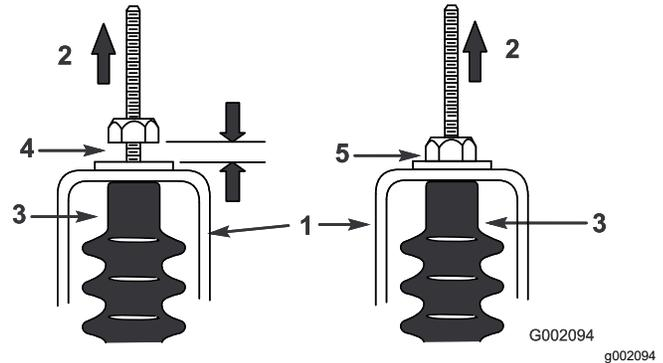

Figure 62
- Pull up on each shift cable and ensure that there is a 0.76 to 1.52 mm (0.03 to 0.06 inch) between the nut/washer and the neutral bracket (Figure 62).